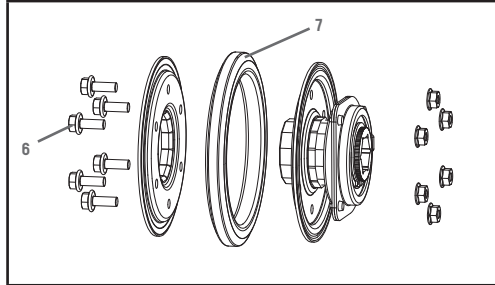

Figure 30
- Unscrew the six M6 × 16 bolts (6) of the friction disc assembly to discard the worn friction wheel rubber ring (7) and replace with a new one (Fig. 30).